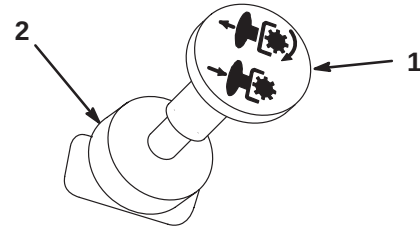

Figure 6
3. Move the PTO (power take off) to Off (Fig. 6).
2. Move the PTO to Off (Fig. 6).